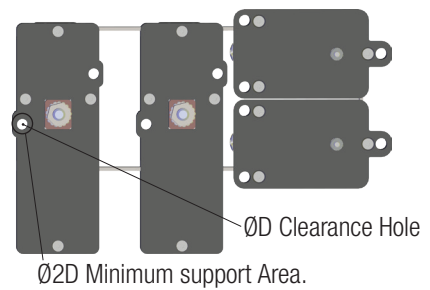

Figure: 4-3
- The collector assembly should be supported around the clearance hole location, out to a minimum diameter of 2 times the clearance hole diameter. See **Figure: 4-3**.